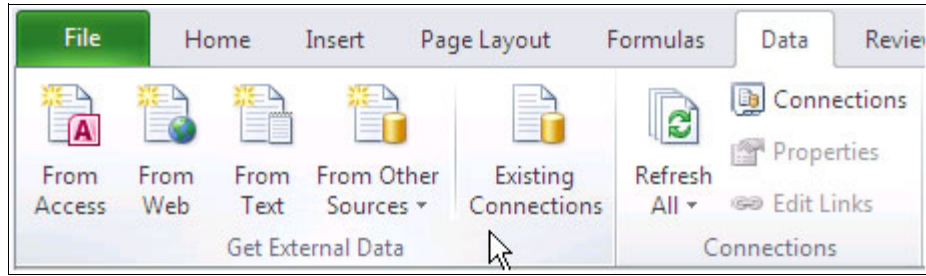

Figure 6 Excel import the rank CSV file
5. Figure 6 shows a sample of the menu bar option to import data from text.